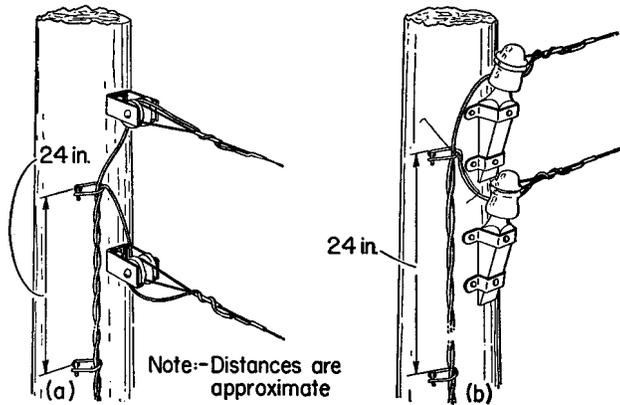

Fig. 9
3.05 When the line wires are dead-ended on the pole make the bridling run as shown in Fig. 9.